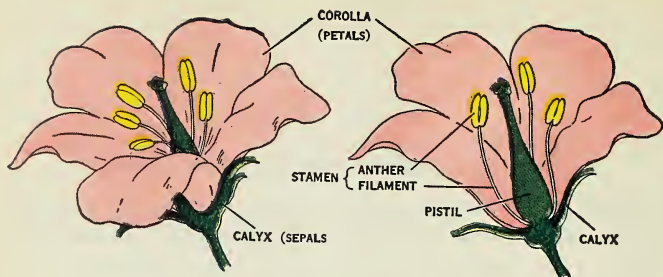

Fig. 360. The parts of a flower.
**Parts of a flower.** Upon examining a blossom of one of our common flowering plants, we usually find a set of small leaflike parts at its base on the stem (*peduncle*). These were folded around the complete flower when it was in the bud. They are the *sepals* (Fig. 360). Just above the sepals are the larger, beautifully colored flower leaves which expand as the flower opens. They are the *petals*. The profusion of color in our gardens is chiefly due to brightly colored petals. Inside the petals is a circle of slender, stemlike organs, the *stamens*, which usually surround a single organ, the *pistil*. The organs of the flower which are necessary for its work are the stamens and the pistil. For this reason they are often referred to as the *essential organs* of the flower. The flowers of a few kinds of plants consist only of essential organs.